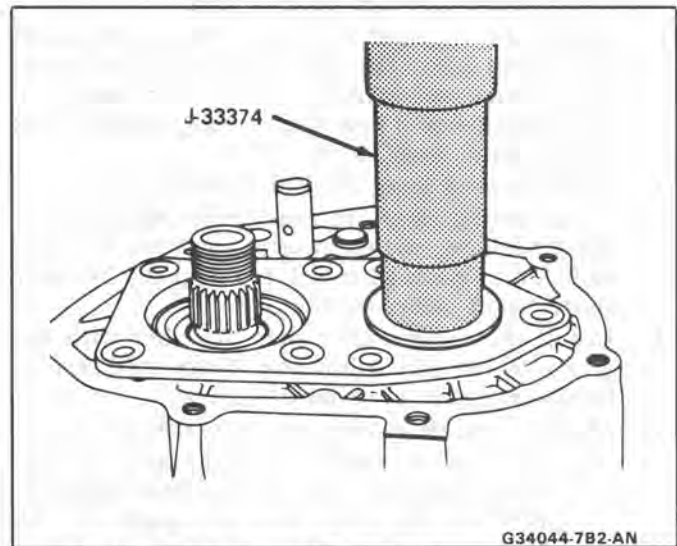

Fig. 44 Fifth Gear Thrust Bearing and Collar
20. Install the thrust washer and collar to the output shaft using J 33374 (Fig. 44).